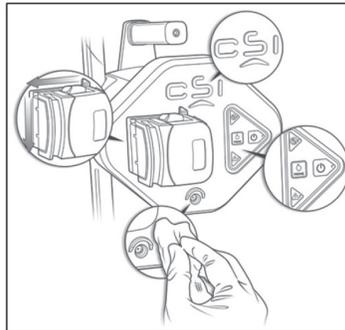
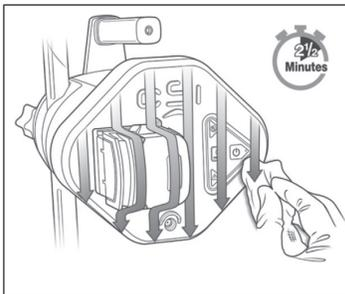

Figure 11. Thoroughly wipe these areas
Figure 12. Wipe all surfaces of front face
- Thoroughly wipe the seams and crevices of the pump head cover, around the edges of the lettering, around the button area, and around the power outlet (see Figure 11). Thoroughly wipe all surfaces of the front face of the pump (see Figure 12). Continue to keep all surfaces **wet for a minimum of 2½ minutes**. Discard the wipes.